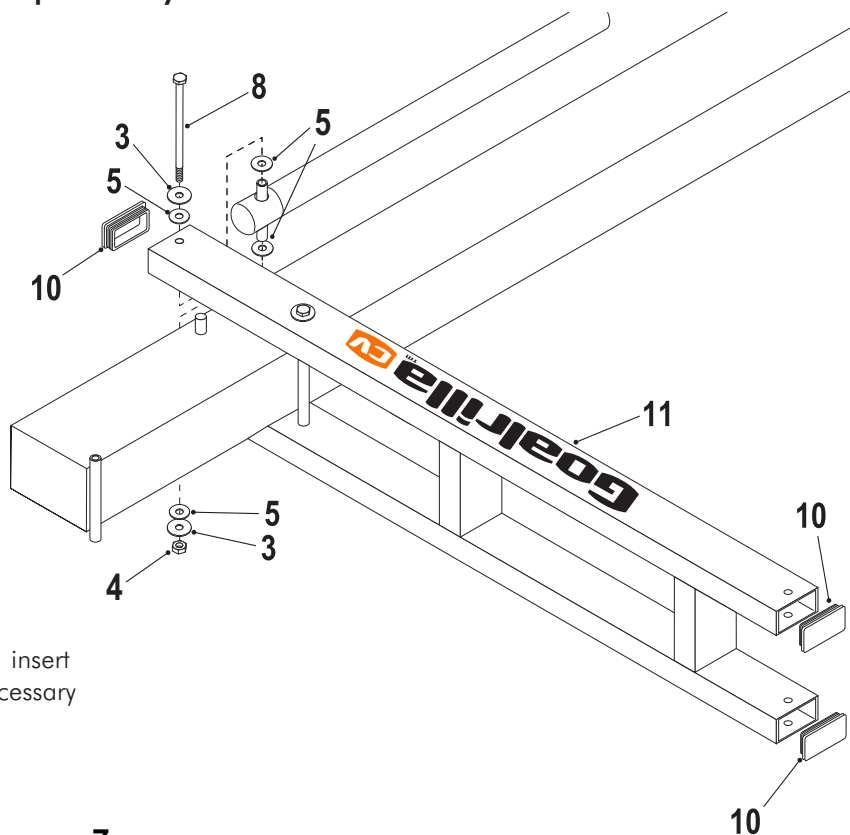

Figure 6
6. Secure Actuator (#16) to Lower Arm (#11) using one bolt (#8), two flatwashers (#3), four plastic washers (#5) and one thin locknut (#4). See Figure 6. Tighten both bolts (#8) **snug but, do not over tighten. Board Arms must pivot freely.**